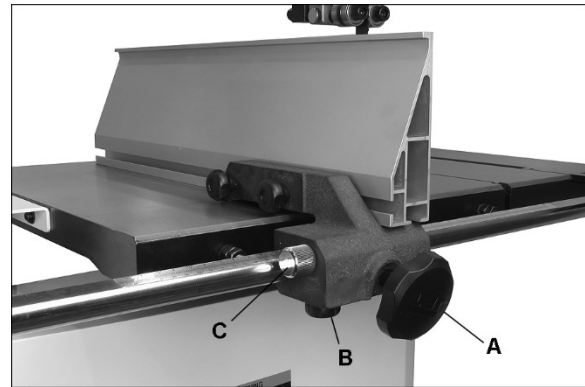

Figure 7-3
Refer to Figure 7-3.
1. Loosen fence lock knob (A, Figure 7-3).
2. Loosen knob (B).
4. Tighten knob (B).
5. Rotate knurled knob (C) to achieve fine adjustment.
6. When setting is reached, tighten fence lock knob (A).